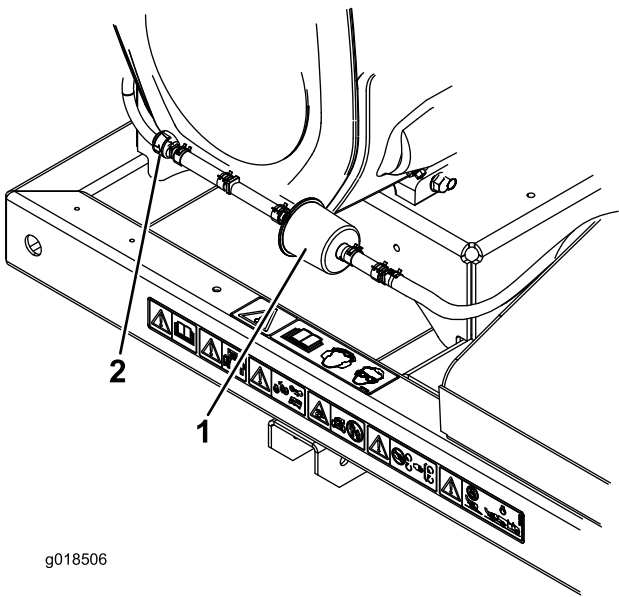

Figure 14
- 2. Move the spring-type hose clamps on both sides of the carbon canister purge-line filter away from the filter (Figure 14).
- 3. Remove and discard the carbon filter (Figure 14).
- 4. Install a new filter into the hose with the arrow on the filter pointing towards the check valve and secure it with the hose clamps (Figure 14).